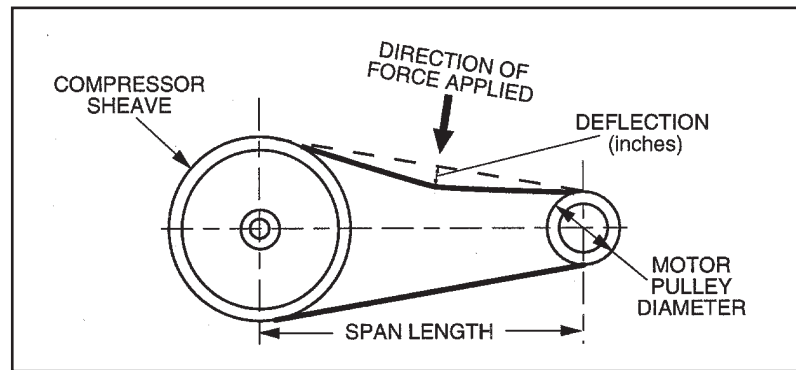
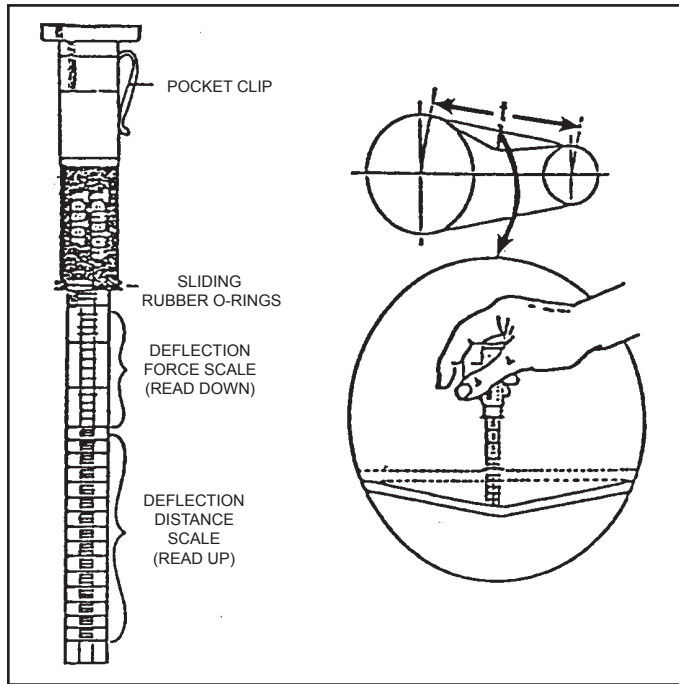

Fig. 5-1
Fig. 5-2 Belt Tension Gauge
Step 1) Measure the span length of the drive. (Refer to **Fig. 5-1, Setting Belt Tension.**)
Step 4) At the center of the span, perpendicular to the belt, apply pressure to the outer surface of the belt with a belt tension gauge (refer to **Fig. 5-2, Belt Tension Gauge**). Force the belt to the predetermined deflection (refer to **Step 2** above). Record the reading on the belt tension gauge and compare to the chart following **Fig 5-1**. The deflection force reading should be within the minimum and maximum values shown. Adjust belt(s) accordingly. New belts should be initially tensioned to the maximum value plus 33% (multiply by 1.33).